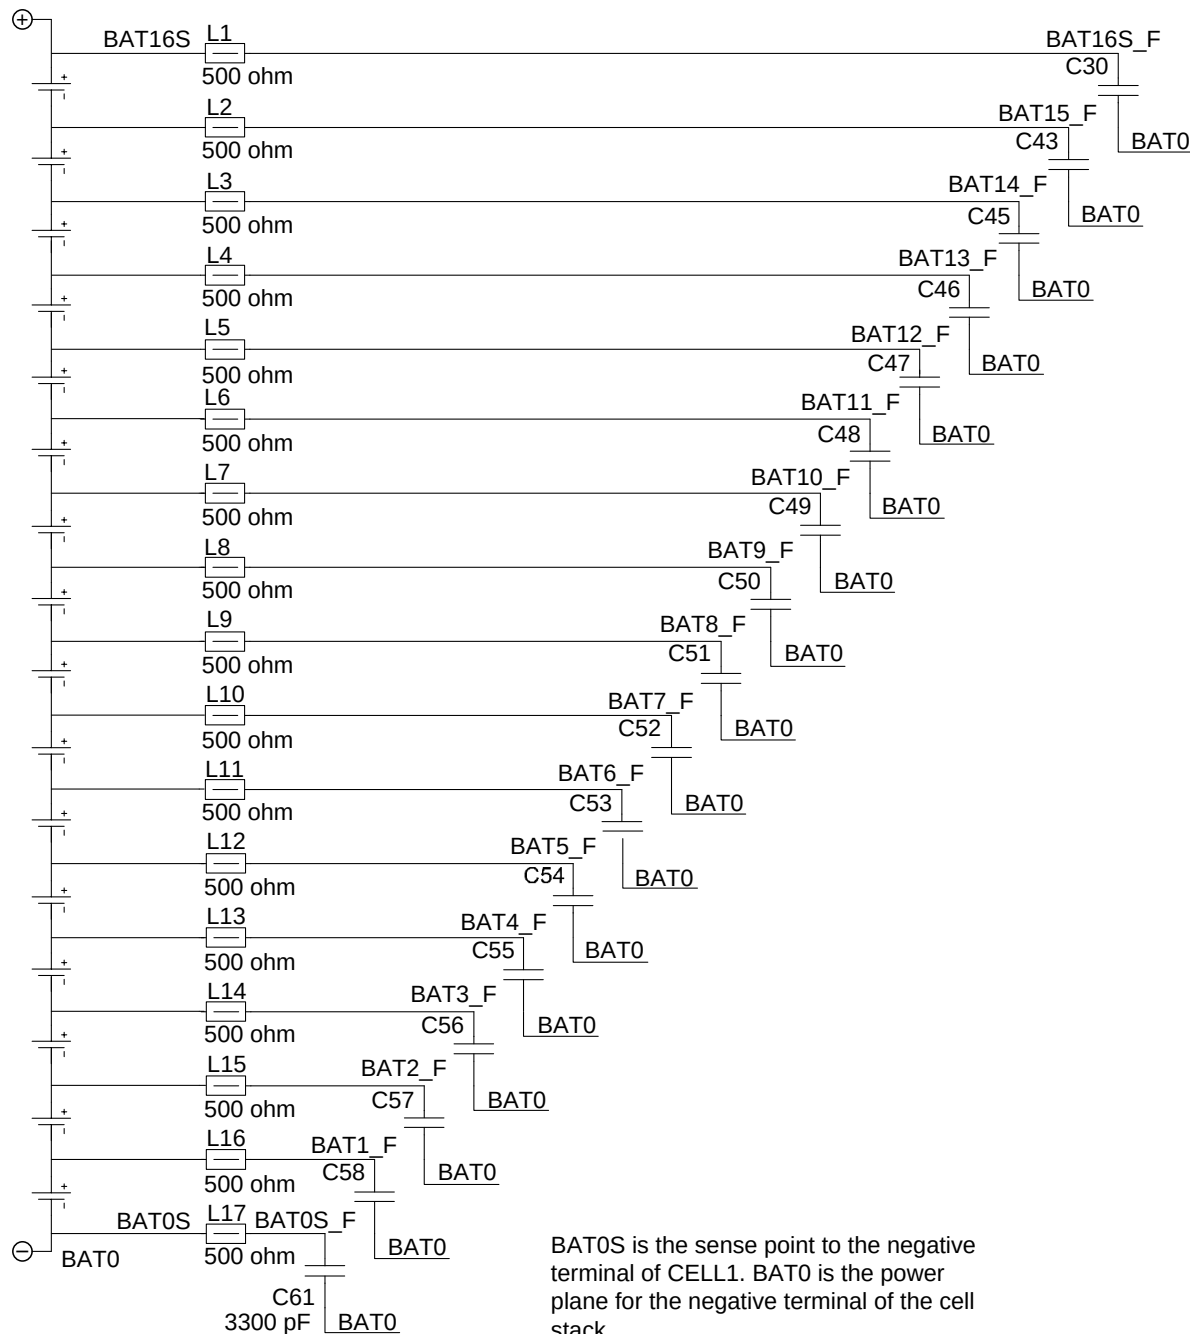

**Figure 29. EMC Filter on Cell Inputs**
- Add a 0.0033- $\mu$ F capacitor from each cell input to the battery pack (BAT0 in Figure 29). Adjust the value of capacitance to satisfy the PCB layout and field conditions for the application.